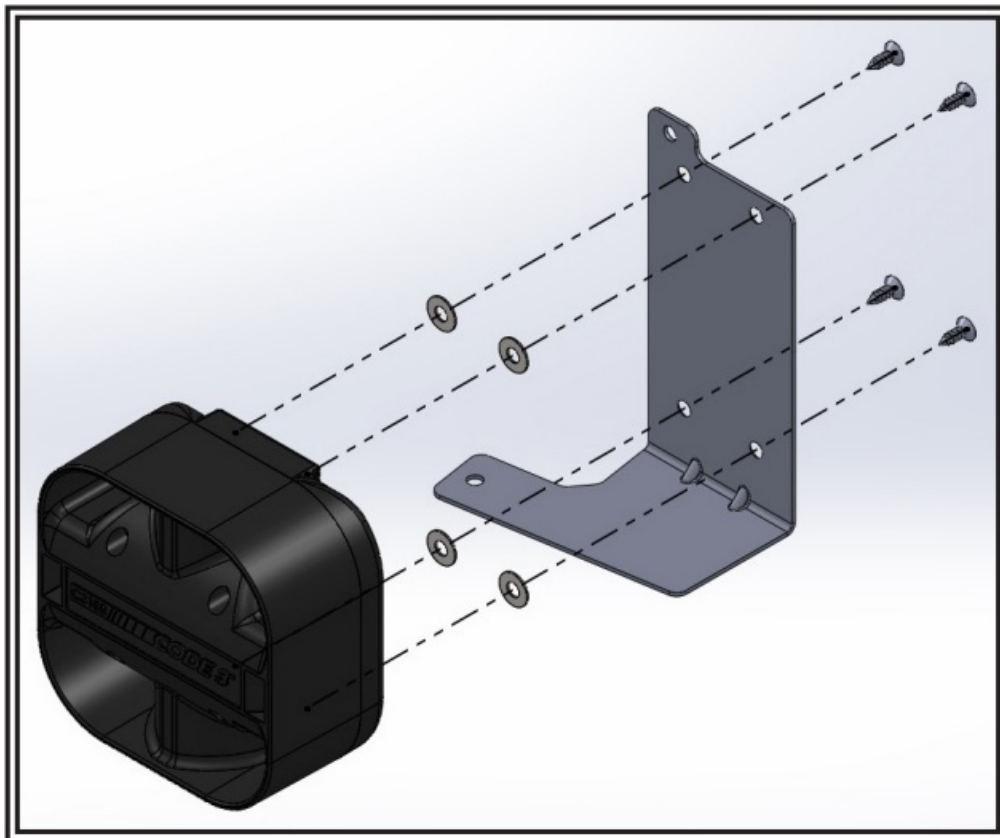

Figure 1
2. Attach the desired speaker to the bracket. Using hardware supplied in the bracket kit. See Figure 1.